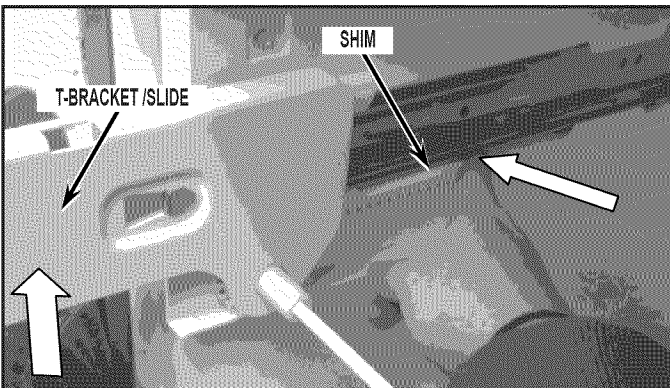

FIGURE 3
5. Insert shims. The shim should just push in. If it's a tight fit, try pushing up on the t-bracket/slide. See *Figure 3*.